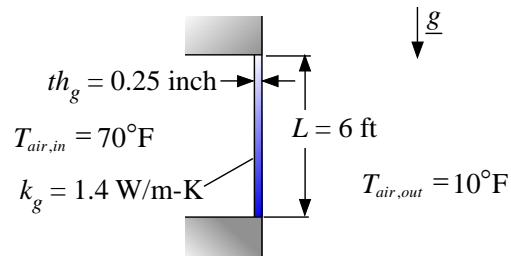

Figure P6.2-5: Single-paned glass window.
6.2-5 (6-4 in text) Figure P6.2-5 illustrates a single-paned glass window that is $L = 6$ ft high and $W = 4$ ft wide; the glass is $th_g = 0.25$ inch thick and has conductivity $k_g = 1.4$ W/m-K.